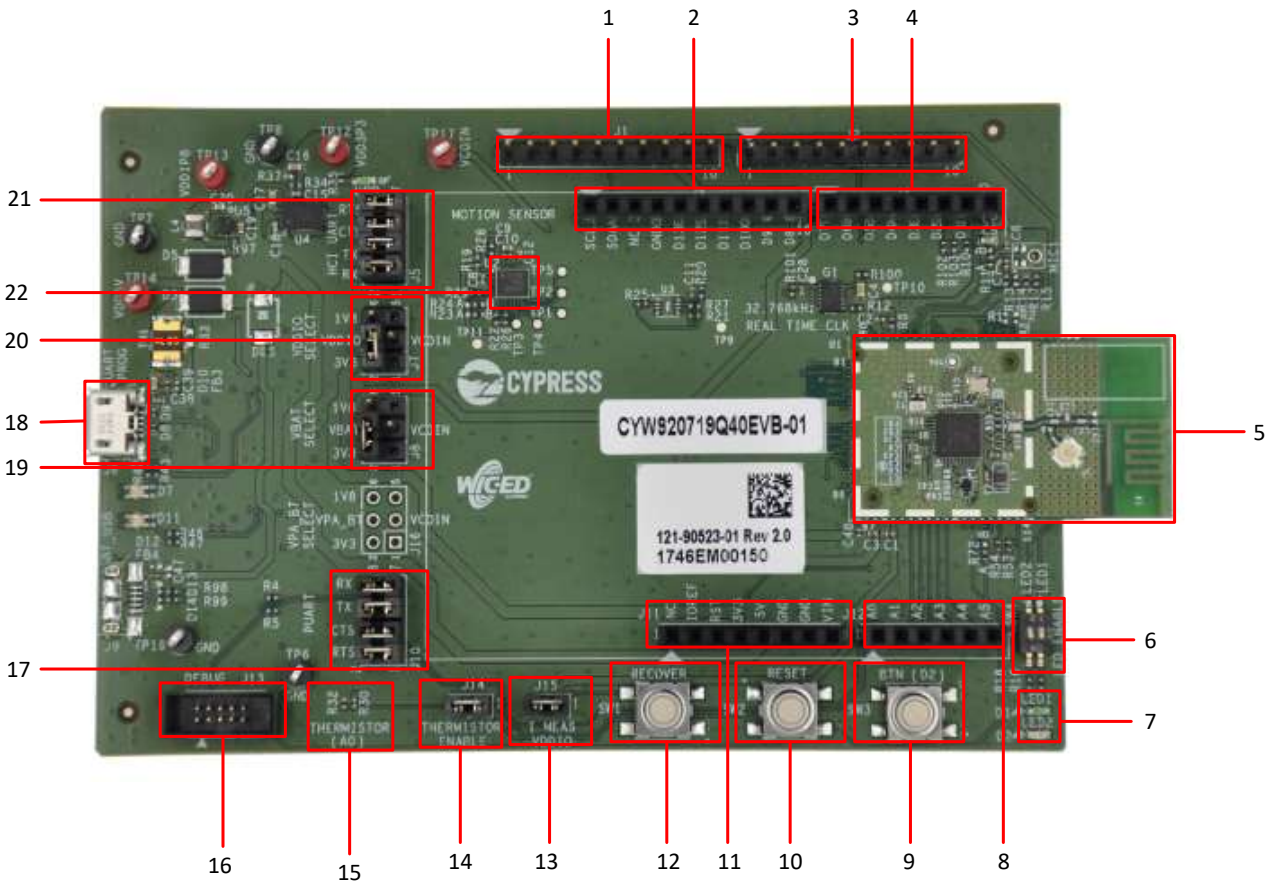
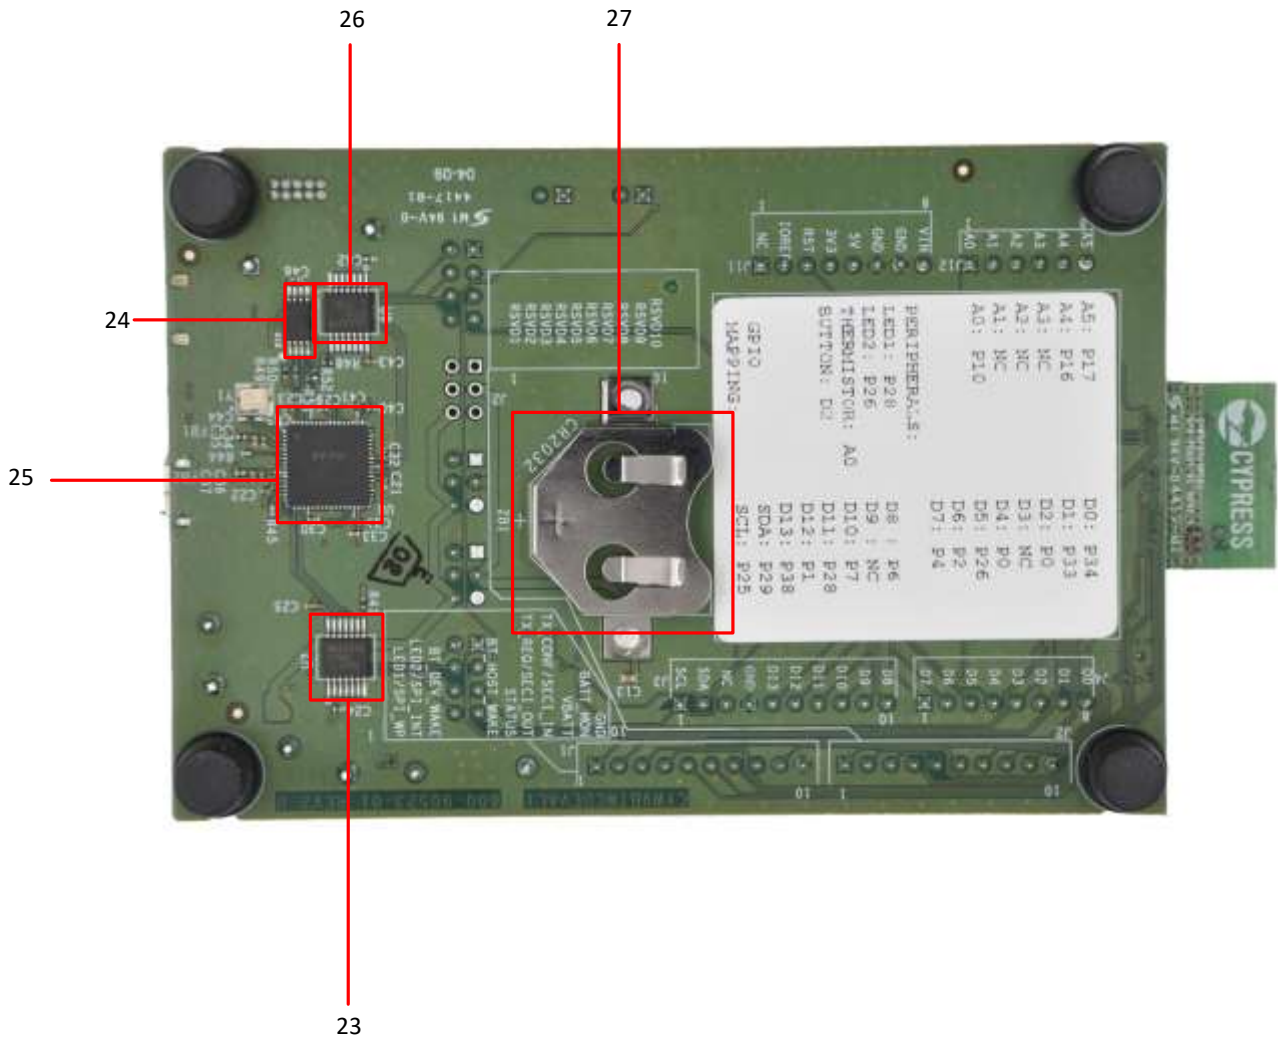

Figure 3-3. CYW920719Q40EVB-01 Evaluation Board
Figure 3-4. CYW920719Q40EVB-01 Evaluation Board (Back View)
- Automatically, by pressing button **SW 3** (see Figure 3-3) on the WICED evaluation board (**Allow Notifications** must be selected from the **Value** drop-down list to allow automatic notifications).
- The Hello Configuration read-write characteristic is used to configure the number of times an LED on the evaluation board blinks (see Figure 3-3) when the value is changed and whenever button **SW 3** is pressed.
2. Press button **SW 3** on the WICED board (see Figure 3-3). The Hello X message is displayed in the **Value** field. Each time the button is pressed, the message number increments.
2. Press button **SW 3** on the WICED board (see Figure 3-3). The LED on the board again blinks five times.
Figure 3-3 and Figure 3-4 show the markup of the CYW920719Q40EVB-01 board. See the list below for a description of the numbered items.